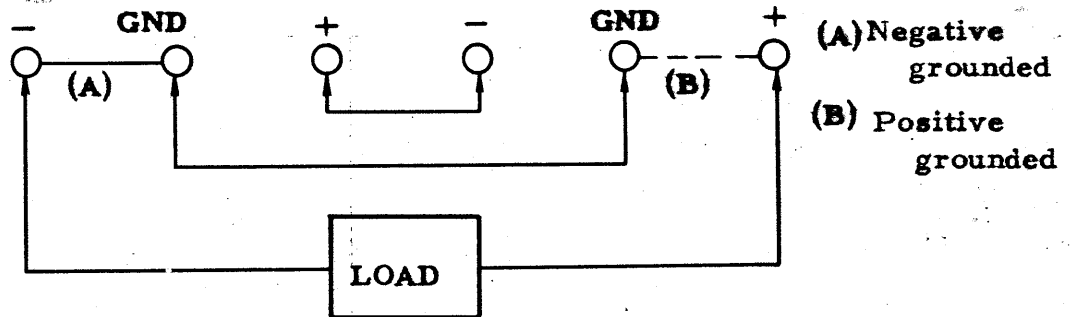

Fig. 4 Series operation connection diagram
**Note 1** Be careful not to ground the positive terminal of one Model PAC35-3 when grounding the negative terminal of the other in Fig. 4.